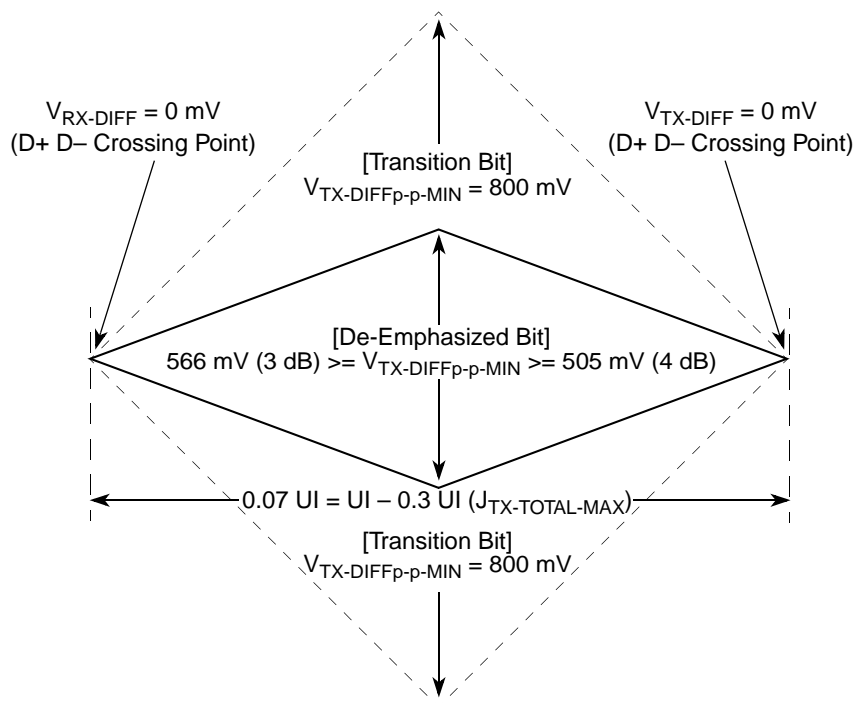
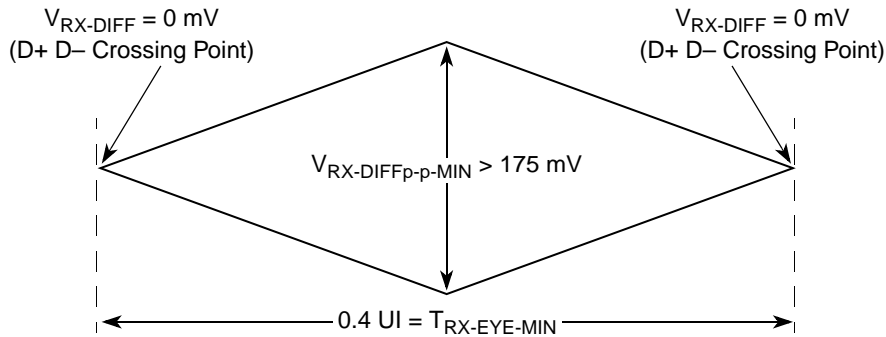
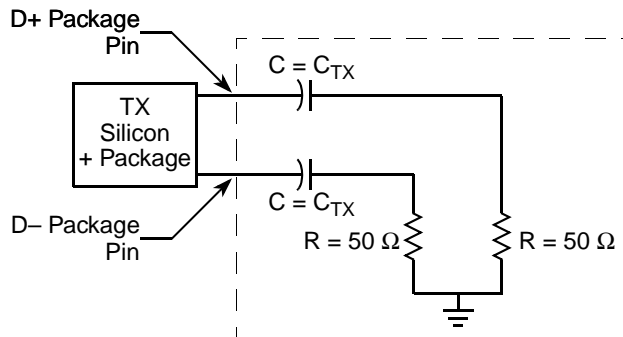

Figure 56. Minimum Transmitter Timing and Voltage Output Compliance Specifications
Figure 57. Minimum Receiver Eye Timing and Voltage Compliance Specification
Figure 58. Compliance Test/Measurement Load
2. Specified at the measurement point into a timing and voltage compliance test load as shown in Figure 58 and measured over any 250 consecutive TX UIs. (Also refer to the transmitter compliance eye diagram shown in Figure 56.)
4. The transmitter input impedance shall result in a differential return loss greater than or equal to 12 dB and a common mode return loss greater than or equal to 6 dB over a frequency range of 50 MHz to 1.25 GHz. This input impedance requirement applies to all valid input levels. The reference impedance for return loss measurements is 50  $\Omega$  to ground for both the D+ and D- line (that is, as measured by a vector network analyzer with 50- $\Omega$  probes—see Figure 58.) Note that the series capacitors  $C_{\text{TX}}$  is optional for the return loss measurement.
5. Measured between 20%–80% at transmitter package pins into a test load as shown in Figure 58 for both  $V_{\text{TX-D+}}$  and  $V_{\text{TX-D-}}$ .
The TX eye diagram in Figure 56 is specified using the passive compliance/test measurement load (see Figure 58) in place of any real PCI Express interconnect +RX component.
2. Specified at the measurement point and measured over any 250 consecutive UIs. The test load in Figure 58 should be used as the RX device when taking measurements (also refer to the receiver compliance eye diagram shown in Figure 57). If the clocks to the RX and TX are not derived from the same reference clock, the TX UI recovered from 3500 consecutive UI must be used as a reference for the eye diagram.
4. The receiver input impedance shall result in a differential return loss greater than or equal to 15 dB with the D+ line biased to 300 mV and the D– line biased to –300 mV and a common mode return loss greater than or equal to 6 dB (no bias required) over a frequency range of 50 MHz to 1.25 GHz. This input impedance requirement applies to all valid input levels. The reference impedance for return loss measurements for is 50  $\Omega$  to ground for both the D+ and D– line (that is, as measured by a vector network analyzer with 50- $\Omega$  probes, see Figure 58). Note that the series capacitors CTX is optional for the return loss measurement.
The RX eye diagram in Figure 57 is specified using the passive compliance/test measurement load (see Figure 58) in place of any real PCI Express RX component.
In general, the minimum receiver eye diagram measured with the compliance/test measurement load (see Figure 58) will be larger than the minimum receiver eye diagram measured over a range of systems at the input receiver of any real PCI Express component. The degraded eye diagram at the input receiver is due to traces internal to the package as well as silicon parasitic characteristics which cause the real PCI Express component to vary in impedance from the compliance/test measurement load. The input receiver eye diagram is implementation specific and is not specified. RX component designer should provide additional margin to adequately compensate for the degraded minimum receiver eye diagram (shown in Figure 57) expected at the input receiver based on some adequate combination of system simulations and the return loss measured looking into the RX package and silicon. The RX eye diagram must be aligned in time using the jitter median to locate the center of the eye diagram.
The reference impedance for return loss measurements is 50 Ω to ground for both the D+ and D- line (that is, as measured by a vector network analyzer with 50-Ω probes, see Figure 57). Note that the series capacitors, CTX, are optional for the return loss measurement.
The AC timing and voltage parameters must be verified at the measurement point, as specified within 0.2 inches of the package pins, into a test/measurement load shown in Figure 58.